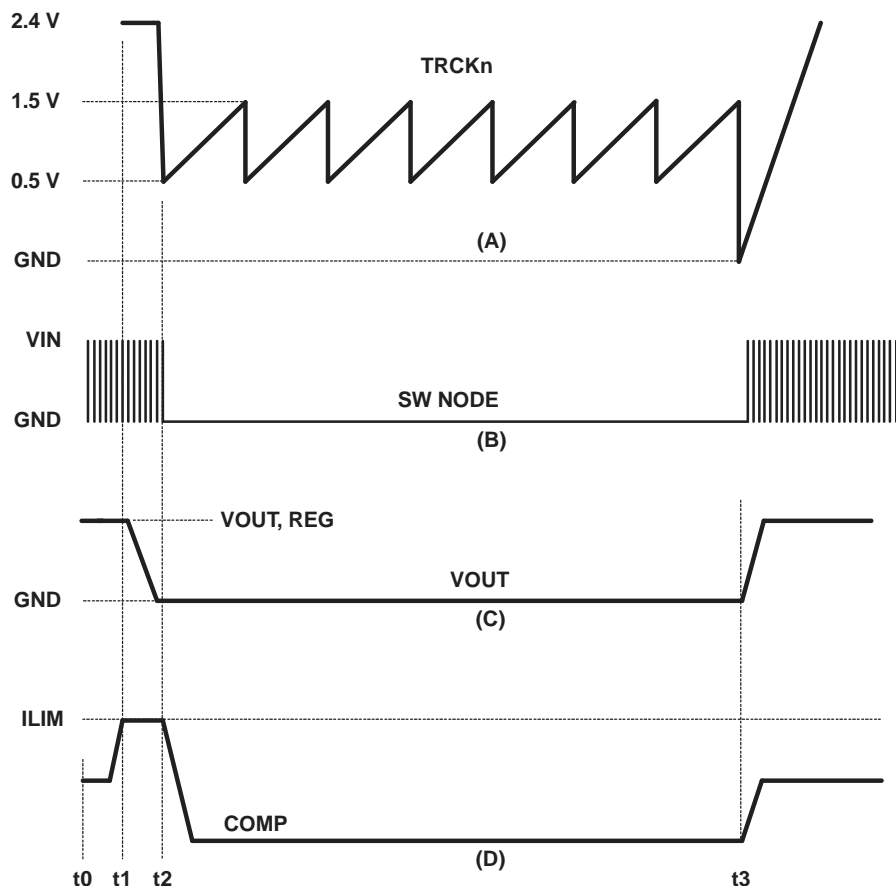

Figure 36. Hiccup Mode and Recovery
To reduce the input current and component dissipation during on overcurrent event, a hiccup mode is implemented. Hiccup mode refers to a sequence of 7 soft-start cycles where no MOSFET switching occurs and then a restart is attempted. If the fault has cleared, the restart results in returning to normal operation and regulation. This is shown in Figure 36.
In Figure 36, normal operation is occurring between t_0 and t_1 as shown by V_{OUT} being at the regulated voltage, (C) and normal switching on the SW NODE (B) and COMP at its nominal level, (D). At t_1 , an overcurrent load is experienced. The increased current forces COMP to increase to the ILIM level as shown in (D). If the COMP voltage is above the ILIM voltage for 7 switching cycles, the controller enters a hiccup mode. During this time the controller is not switching and the switching MOSFETs are turned off. The TRKx voltage goes through 7 cycles of charging and discharging the soft-start capacitor. At the end of the 7 cycles the controller attempts another normal restart. If the fault has been cleared, the output voltage comes up to the regulation level as shown at time t_3 . If the fault has not cleared, the COMP voltage again rises above the ILIM voltage and the hiccup mode repeats.